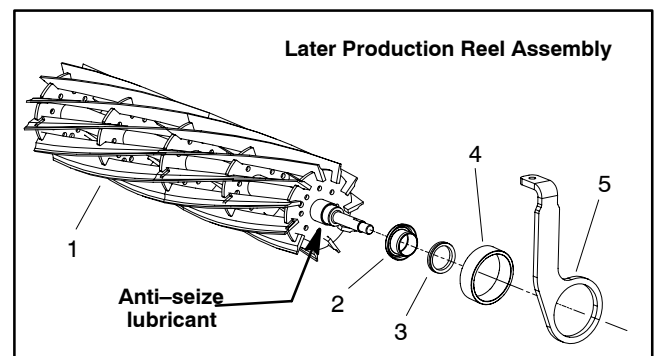

Figure 20
7. Later production reels use a wear sleeve and v-ring seal (Fig. 20). Remove these items from the reel if equipped.
4. If equipped, (later production reels) install wear sleeve and v-ring seal to reel (Fig. 20).